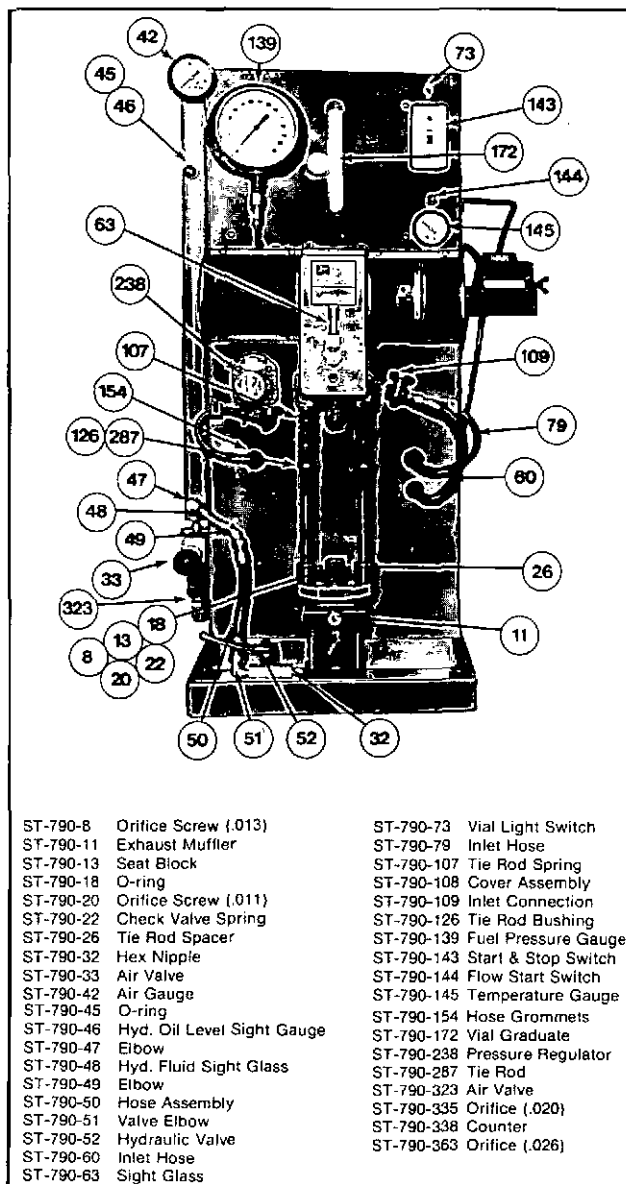

Fig. 4-36, (F60122). Injector test stand ST-790
The ST-790 Injector Test Stand is used for testing and calibrating Cummins injectors. The test stand must be properly installed and calibrated to obtain the highest accuracy possible, Fig. 4-36.
1. Before operating the test stand make sure that the cam box is filled to the top level of the sight glass with clean SAE 30 non-foaming lubricating oil, Ref. 63, Fig. 4-36.
2. Fill the hydraulic fluid reservoir to the bulb level with clean Type A automatic transmission fluid. Be careful not to allow oil to enter the standpipe in the center of the reservoir, Ref. 46, Fig. 4-36.